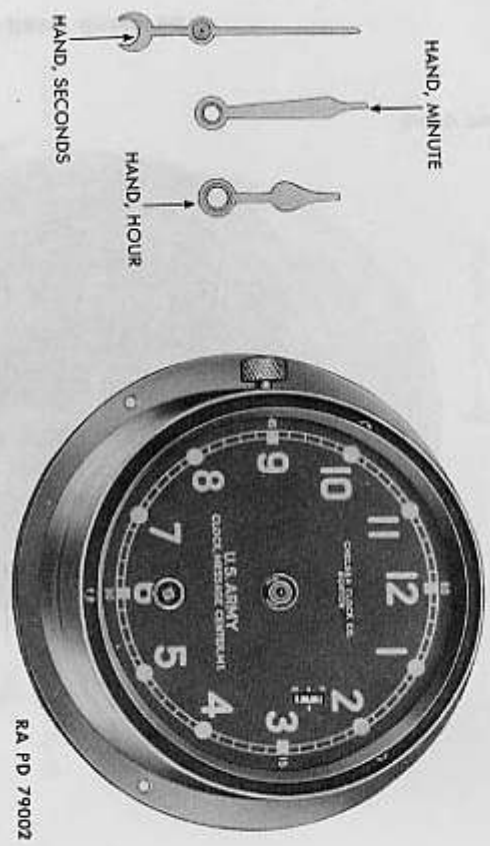

Figure 204 — Message Center Clock M1 — Hands Removed
- c. **Remove Hands.** Protect dial with paper and remove hands, using the hand remover (fig. 204).
t. **Replace Hands** (fig. 204). Place hour hand on the post of hour wheel with point at the twelfth hour. Place minute hand on cannon pinion seat with point at the twelfth hour. Place sweep seconds hand on the fourth wheel pinion with point at the twelfth hour. Turn hands through a complete revolution around dial, checking them for position at the twelfth hour. If hands do not line up properly at the twelfth hour, remove sweep seconds and minute hands and realine them.